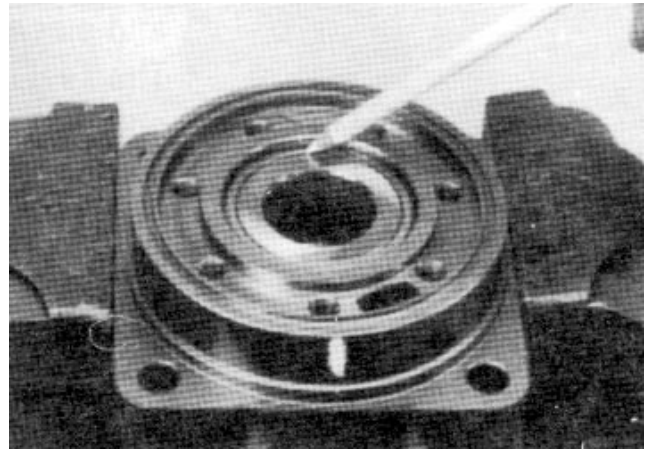

Figure 46
Note: Coupling shaft (11) should be approximately 0.10 inch (2.54 mm) below the housing wear plate surface to allow the assembly of thrust bearing (12). The coupling shaft must rotate smoothly on the thrust bearing (9) and thrust washer (8) (Fig. 46).
7. Make sure that a generous amount of clean corrosion resistant grease has been applied to the outer bearing (2). Install the coupling shaft (11) into housing (3), and seat shaft against the second thrust washer (8).
8. Install thrust bearing (12) onto the end of coupling shaft (11).
9. Apply a small amount of clean grease to a new seal ring (5) and insert it into the housing (3) seal ring groove.